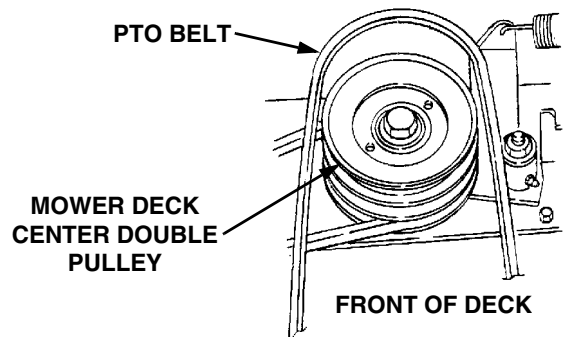
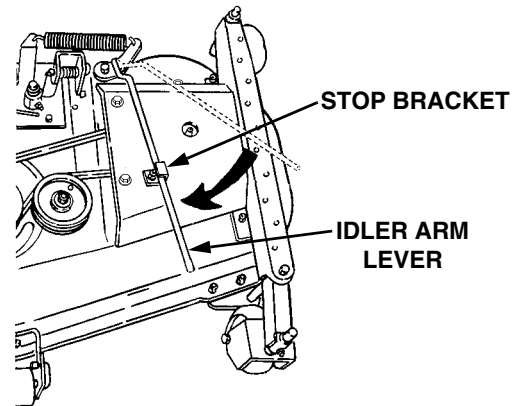

Figure 40
Figure 41
4. Remove the rearward end of the PTO belt from the upper pulley of the deck center double-pulley (Refer to Figure 40). Engage the deck idler arm lever back into its stop bracket (See Figure 41).